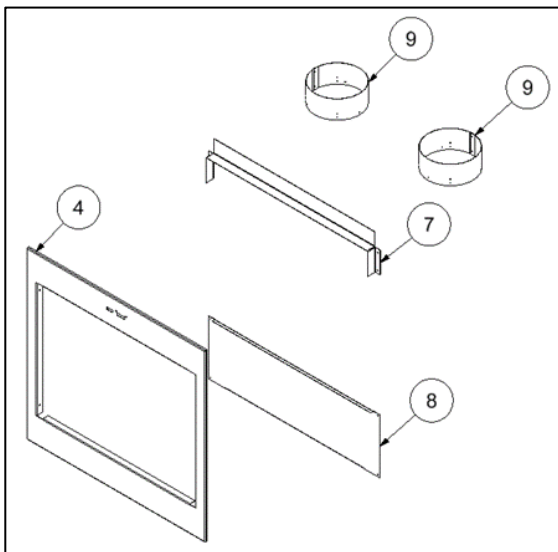
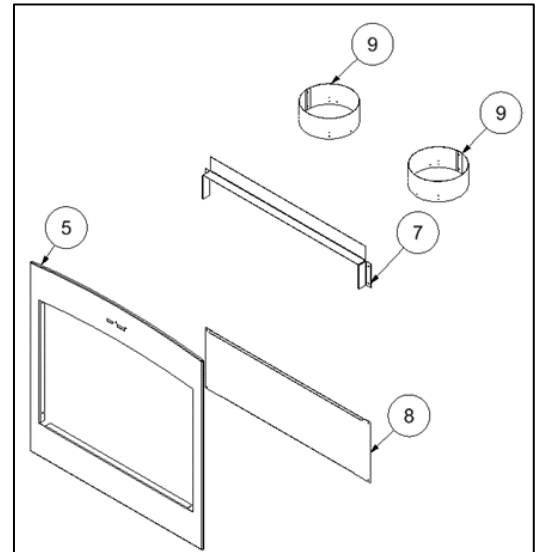

Figure 3-18: Clean Face Rectangular Surround Components
Figure 3-19: Clean Face Arched Surround Components
The Clean Face surround comprises no louvers; however, an intake into the chase and an outtake through gravity ducts is required for this configuration. The instructions below describe the installation of the Clean Face surround. Refer to Figures 3-18 and 3-19 and Tables 3-4 and 3-5 for the instructions below. Refer to Section 3.5 for Gravity Kit installation instructions.
4. Place the surround (Item 4 in Figure 3-18 or Item 5 in Figure 3-19) within the door holder and secure it in place with 4 black screws (one on each corner). Make sure that the handles of the Combustion Air Control pass through the slots of the surround.